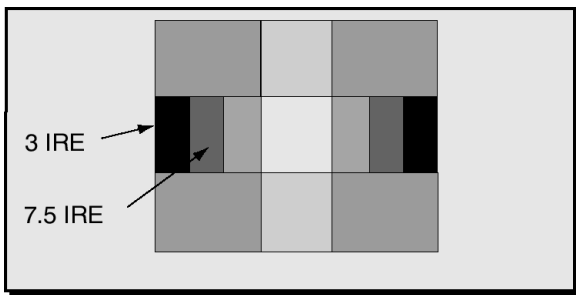

Figure 57. **Black Levels Pattern**
4. Adjust DAC BRIGHT data so that 7.5 IRE part is same light output as 3 IRE part (See Figure 57).
1. Apply a Black levels Pattern (See Figure 57)